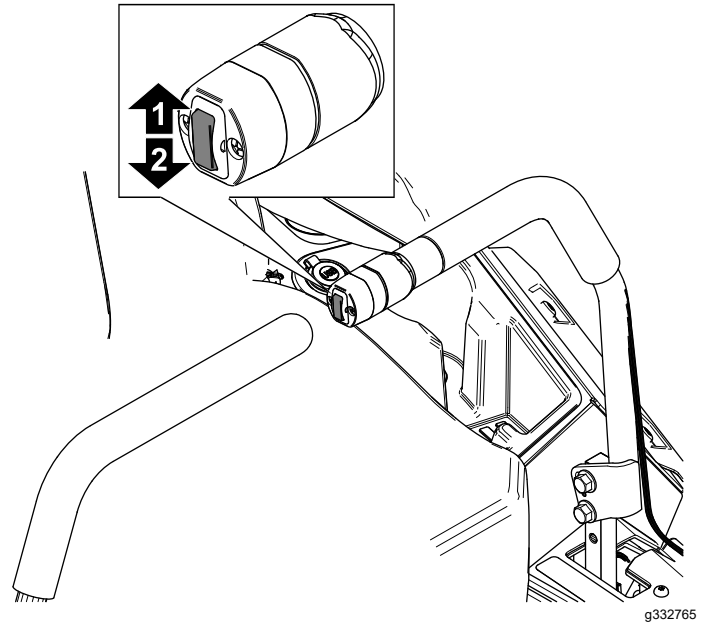

Figure 28
1. Push up on the deck-lift switch (Figure 28) until the deck is fully raised.
1. Push up on the deck-lift switch (Figure 28).